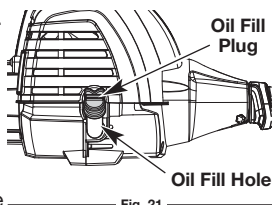

Fig. 21
4. Pour the entire bottle of oil into the oil fill hole (Fig. 21).